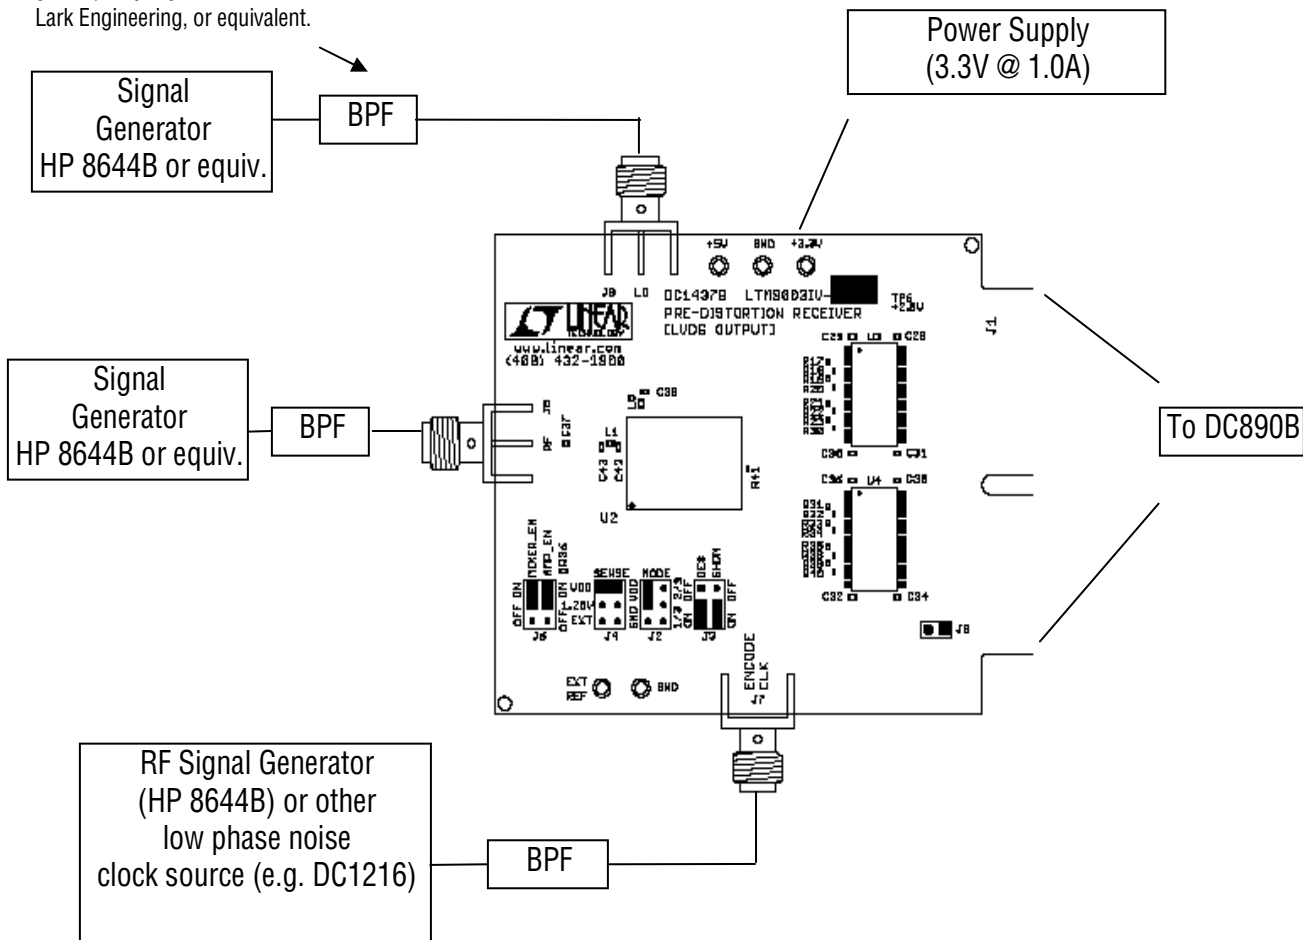

Figure 1. Proper Measurement Equipment Setup
Validating the performance of the LTM9003 is simple with DC1437, and requires only two input sources, a clock source, a computer, and a lab power supply. Refer to Figure 1 for proper board evaluation equipment setup and follow the procedure below:
1. Connect the power supply as shown in Figure 1. There are on-board low-noise voltage regulators that provide the supply voltage for the DC1437. The entire board and all components share a common ground. The power supply should still be a low-noise lab power supply capable of supplying at least 1 Amp.